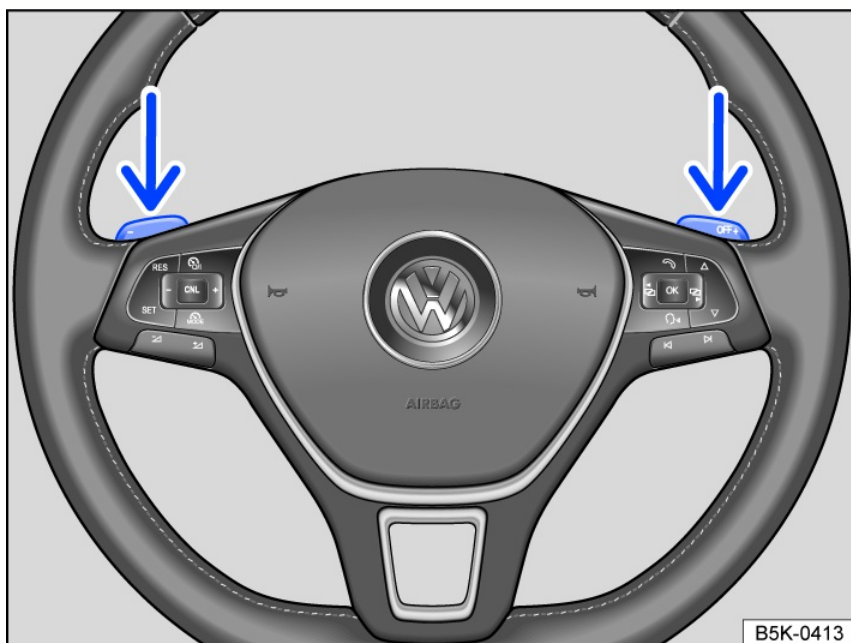

Fig. 92 Steering wheel with shift paddles for Tiptronic.
1. Pull the right shift paddle toward the steering wheel to shift up fig. 92.